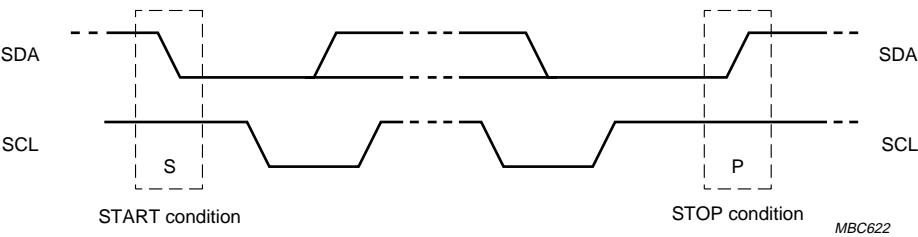

Fig.6 START and STOP conditions.
Both data and clock line will remain HIGH when the bus is not busy. A HIGH-to-LOW transition of the data line while the clock is HIGH is defined as a STOP condition (P) (see Fig.6).
A LOW-to-HIGH transition of the data line while the clock is HIGH is defined as a START condition (S) (see Fig.6).